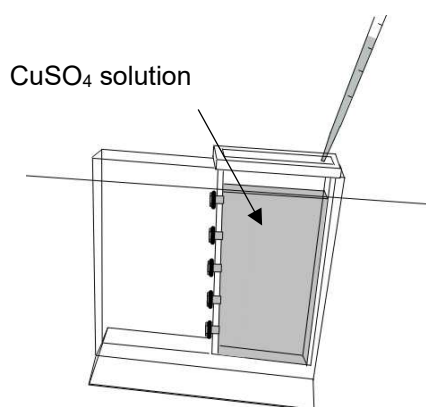

Fig.5 Injecting copper sulfate solution
2. On a plastic tray, insert the small container into the large container and carefully inject copper sulfate solution into the small one using a pipette or a dropper until the surface of the solution is over the top of the hole (Fig.5).